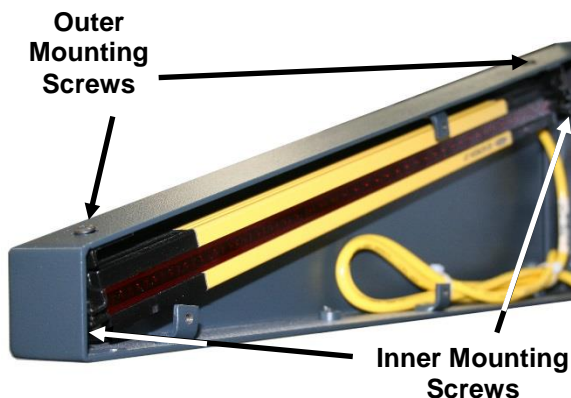

Figure 26
2. Loosen the outer mounting screws (Figure 26) to adjust the eye beam units until they are aligned over their length.
3. Loosen the inner mounting screws (Figure 26) to rotate the beams until they are aligned over their width. When the indicator lights indicate proper alignment as shown in Figure 25, tighten all screws.